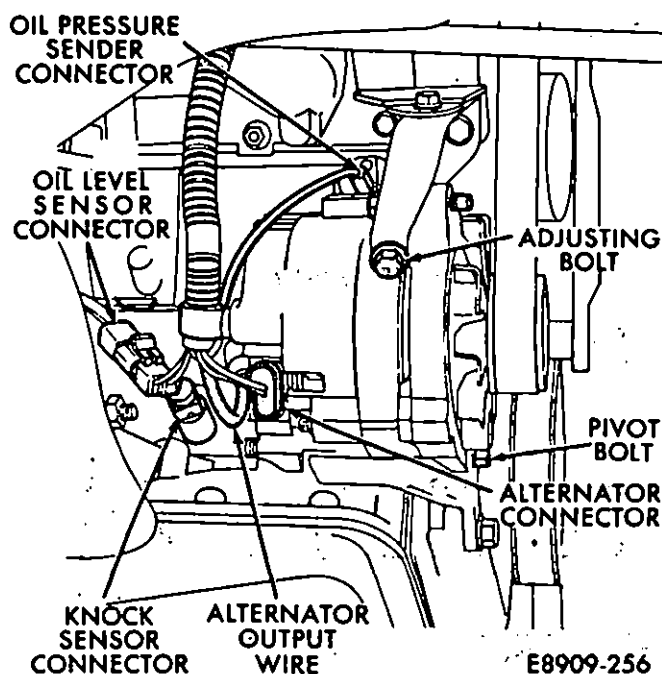

Fig. 13—Alternator Bolt and Sensor Locations
(33) Disconnect the knock sensor connector, the oil level sensor connector, the oil pressure sender connector and the alternator connector (Fig. 13).
(34) Disconnect the alternator output wire from the back of the alternator (Fig. 13).
(35) Disconnect the wire harness clip from the back of the alternator (Fig. 13). Stow the wire harness to the side of the engine compartment.
(36) To loosen the accessory drive belt, loosen the pivot bolt, the locking bolt and the adjusting bolt (Fig. 13).